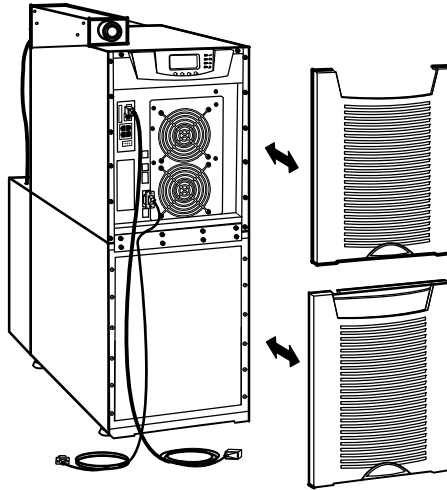

Figure 32. Reinstalling the Front Covers
6. Reinstall the front covers, starting with the bottom cabinet (see Figure 32).